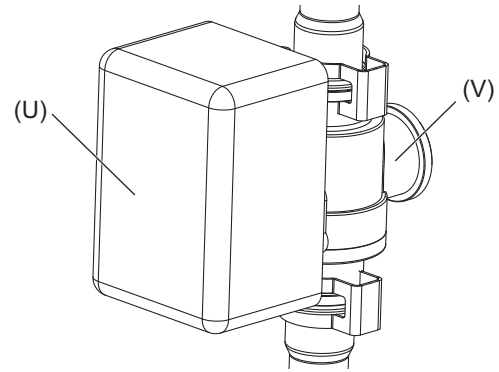

Fig.19
(1) Remove the cover (U) of the FCV (V). (Fig. 19)